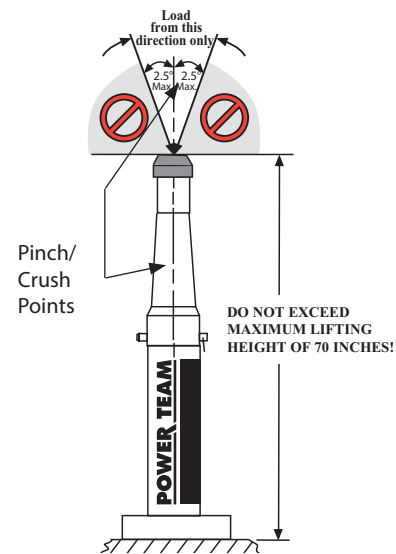

Figure 1
- Do not exceed 2.5° misalignment of the load on the cap (Shown in figure 1).